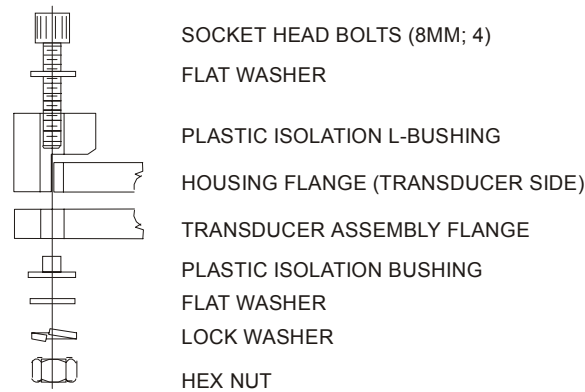

Figure 3. Housing Mounting Hardware
- f. Examine the housing assembly nuts, bolts, and washers (8 mm) for corrosion; replace if necessary. Figure 3, page 8 shows the assembly order of the transducer mounting hardware. *All* hardware items are needed to seal the Long Ranger properly.